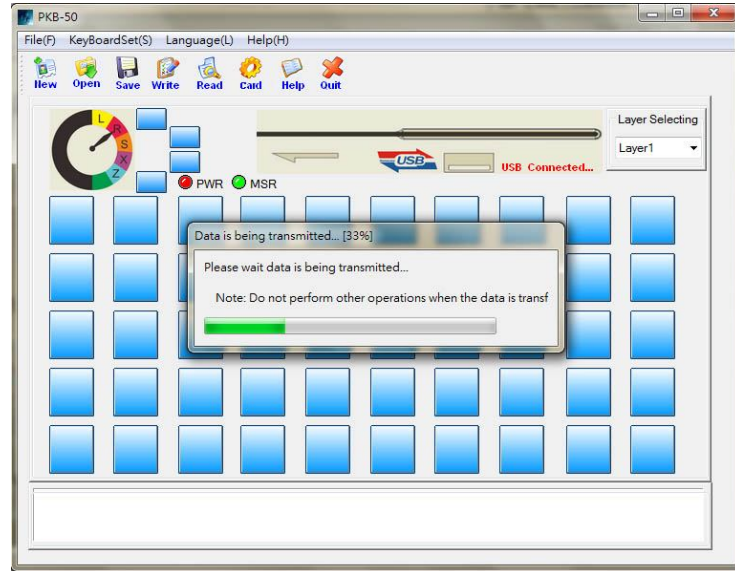

Figure 3.1.1
**Step 1.** Before programming any key, please read the default key value from your PKB-50 keyboard first by pressing **[Read]** button. It will pop up the dialogue that data is transferring, see *Figure 3.1.1*